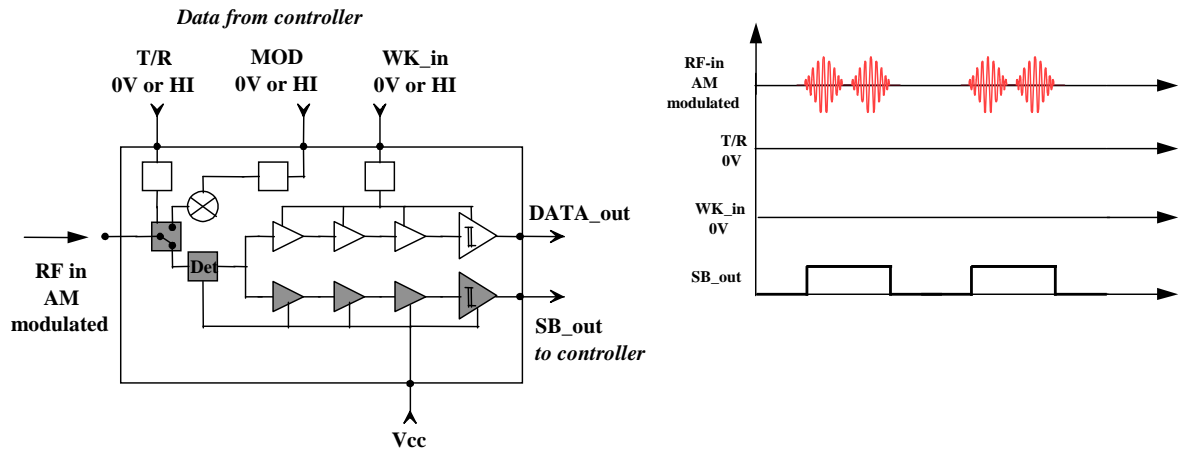

Figure 2a: Standby mode
**1 - The STANDBY MODE** (figures 2a; 2B and 2c) is a very low power consumption state. In this mode an Amplitude Modulated RF signal is necessary to produce a DC voltage at the SB\_out output which may be used to wake-up the CHR2244 by applying Vcc to the WK\_in input.